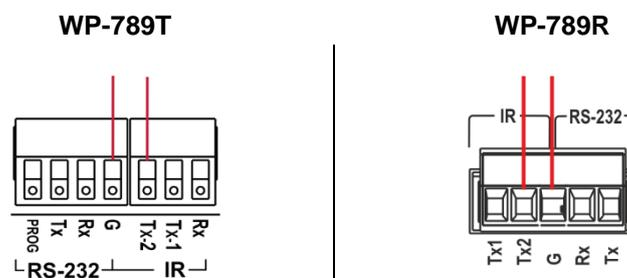

Figure 10: Connecting IR Emitter – Wide-Range Modulated
- Connect the emitter wires to the WP-789T or WP-789R IR terminal block as illustrated in \(Figure 10\).